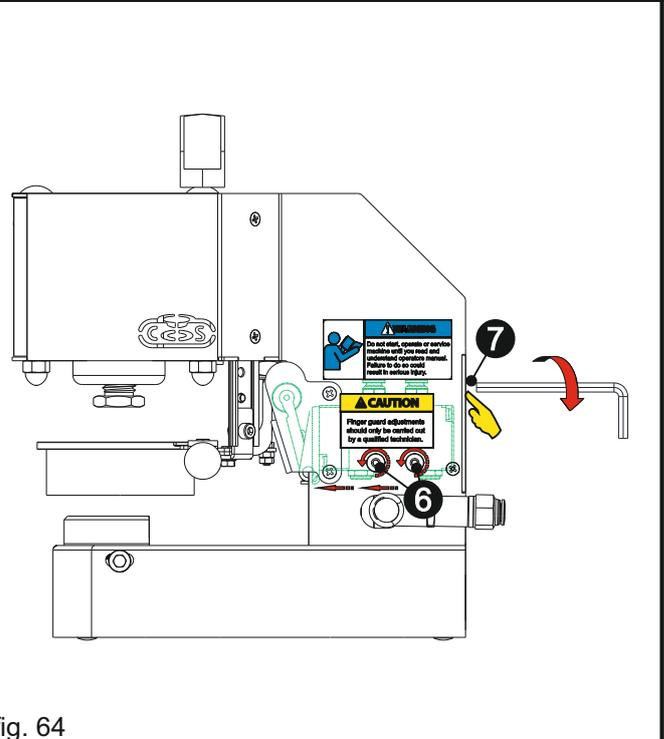

fig. 64
Pull down the manual start arm ④ slowly. Though the acrylic safety guard ③ gets closer than 6 mm to the lower die holder ①, if the die adapter ⑤ does not move down, then follow the procedures illustrated in (fig. 64) after double checking the machine is connected to air source and there is pressurized air in the system.